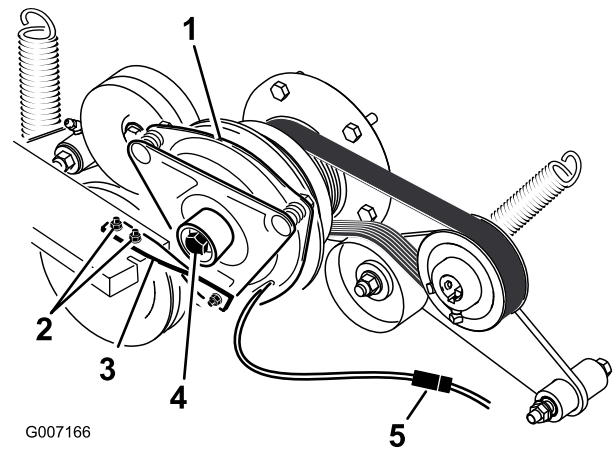

Figure 69
6. Unplug the electric connection for the clutch (Figure 69).
7. Remove the 2 bolts holding the rubber clutch strap to the mower frame (Figure 69).
8. Remove the center bolt holding the clutch to the engine shaft and remove the clutch and key (Figure 69).
15. While holding the crank shaft at the back of the machine, install the center bolt and torque it to 68 N·m (50 ft-lb) (Figure 69).
16. Install the rubber clutch strap to the mower frame with the 2 previously removed bolts and nuts (Figure 69).
18. Plug in the electric connection for the clutch (Figure 69).